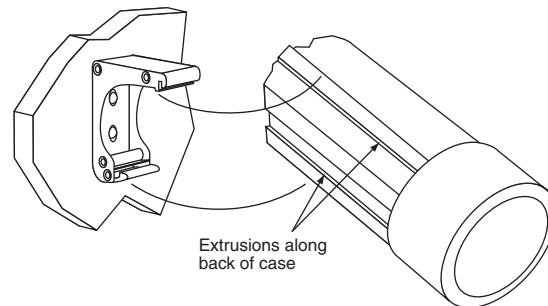

Figure 2
- ② Attach the screen by snapping the extrusions on the back of the case onto the brackets. With the lower edge of the screen case tilted away from the wall, engage the rib on top of the case with the slot on each bracket. Slide the screen case along the brackets to adjust the screen location from left to right if necessary (see Fig. 2). Once the case is in position, pivot the case back toward the brackets until the lower edge of the case "snaps" into place with the spring-loaded latch (see Fig. 3).